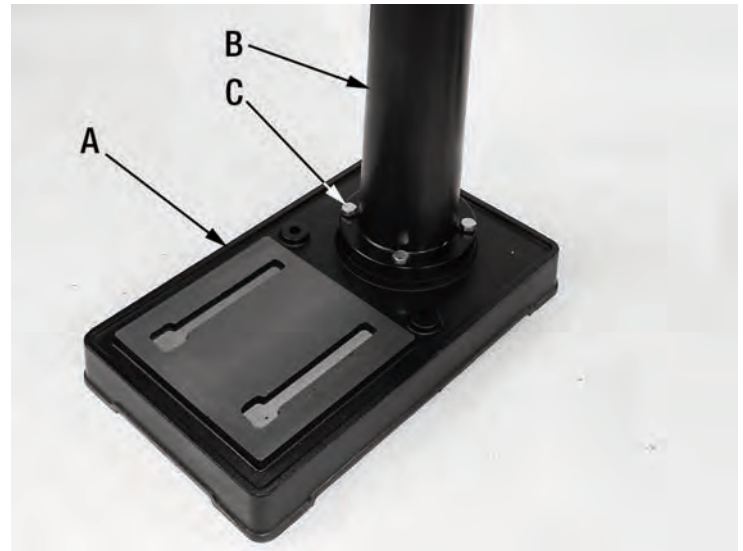

FIGURE 6
- 1) Position the base (A) Fig.6 on the floor. Remove the protective covering and discard.
- 2) Remove protective sleeve from the column & column support (B) and discard. Place the column assembly on the base, align the holes in the column support with the holes in the base.
- 4) Install a hex. bolt (C) in each hole through the column support and the base and tighten with the adjustable wrench.